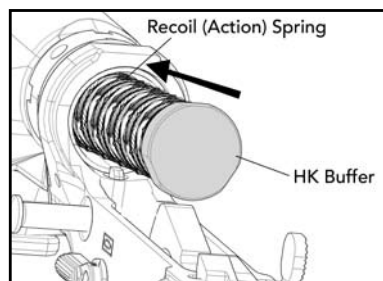

Fig. 39 – Installing buffer & action spring
- d. Ensure that the hammer is in the down (cocked) position before attempting to install the buffer and action spring. Mount the action spring onto the buffer and insert the buffer and spring into the receiver extension. Push back on the buffer far enough until the buffer is retained by the spring loaded buffer detent (Fig. 39).